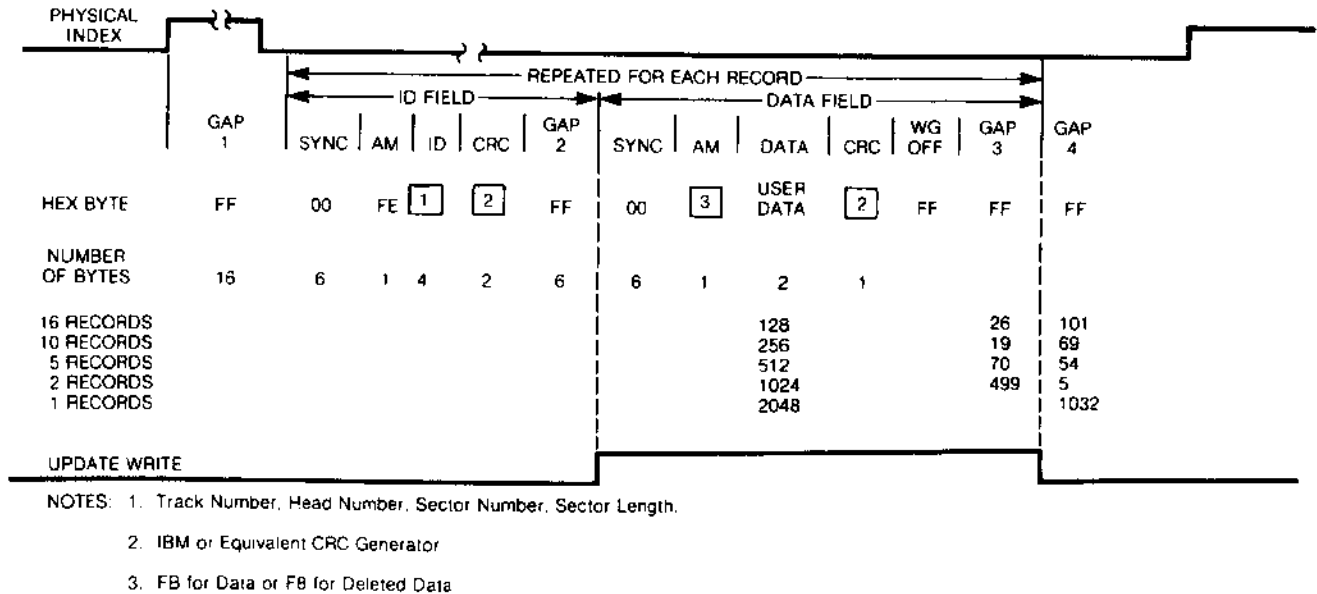
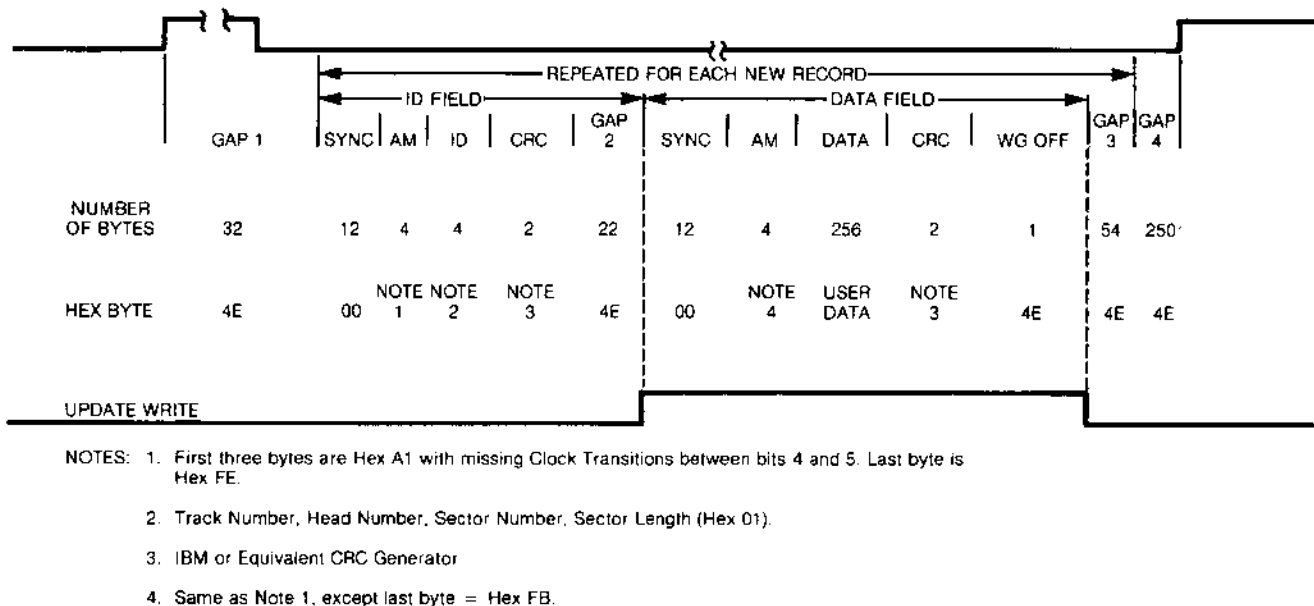

FIGURE 25. RECOMMENDED SOFT SECTOR SINGLE DENSITY (FM) (EVEN BOUNDARIES)
FIGURE 26. MFM RECOMMENDED FORMAT - 256 BYTES/16 RECORDS PER TRACK (IBM TYPE)
In this format, the using system may record one long record or several smaller records. Each track is started by physical index pulse and then each record is preceded by a unique recorded identifier. This type of recording is called soft sectoring. Figure 25 illustrates the recommended single density (FM) formats. Figure 26 shows the recommended double density (MFM) formats.